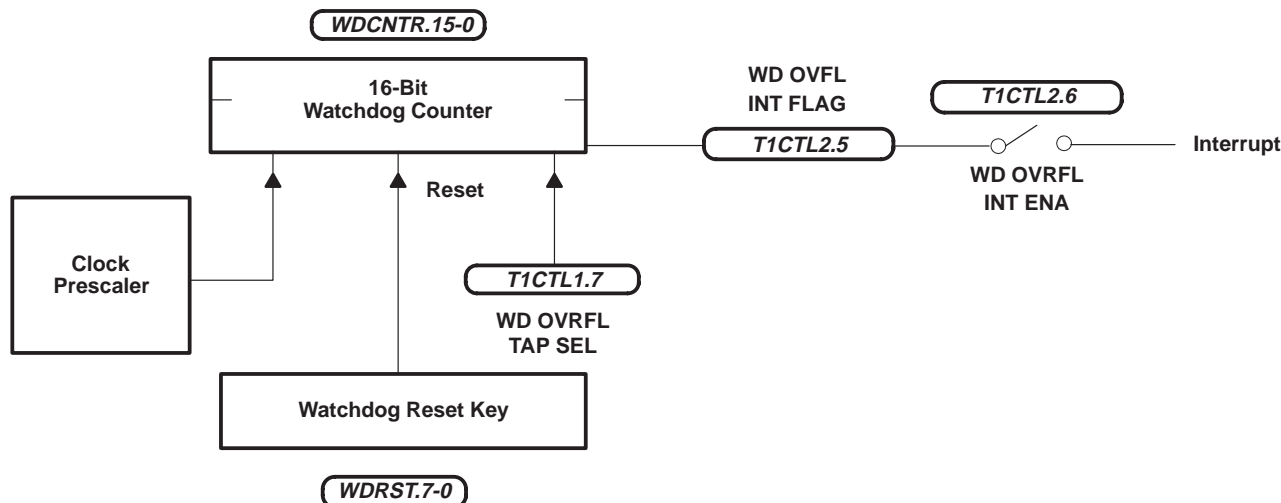

Figure 10. Simple Counter
- Simple-counter configuration (see Figure 10) – for mask-ROM devices only